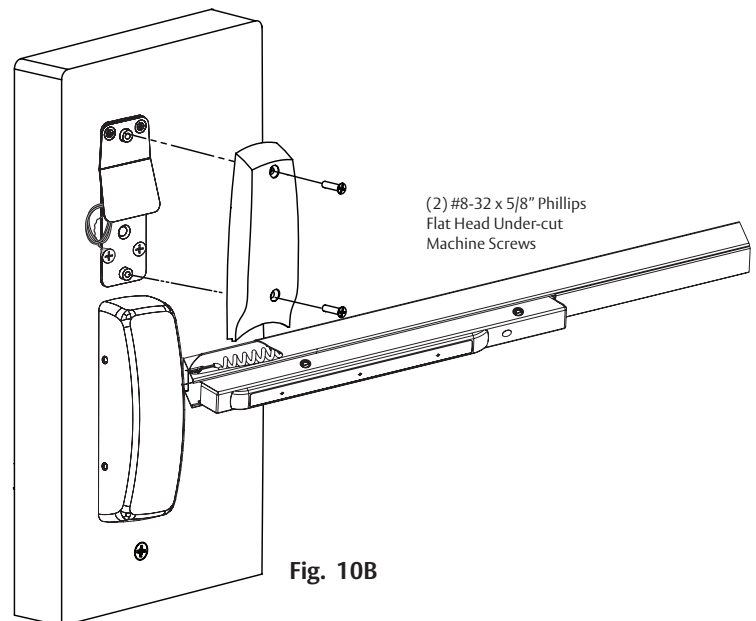

Fig. 10B
4. Insert (2) #8-32 x 5/8" Phillips flat head escutcheon screws and thread into mounting plate, Fig 10B.